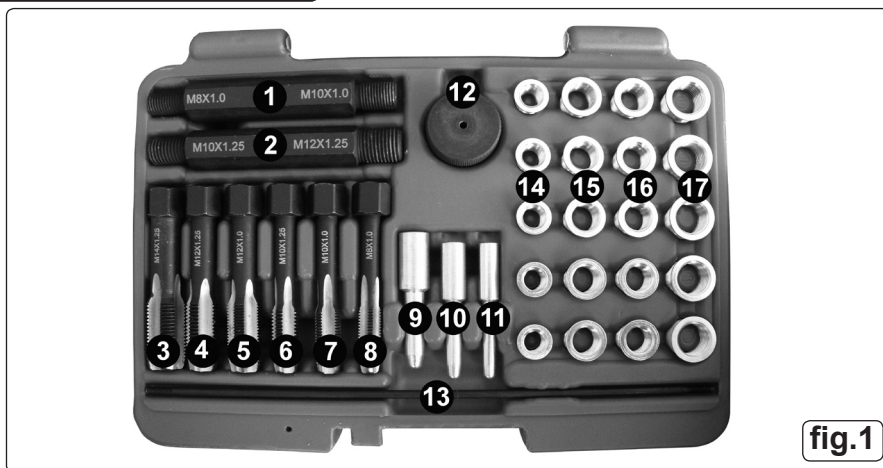
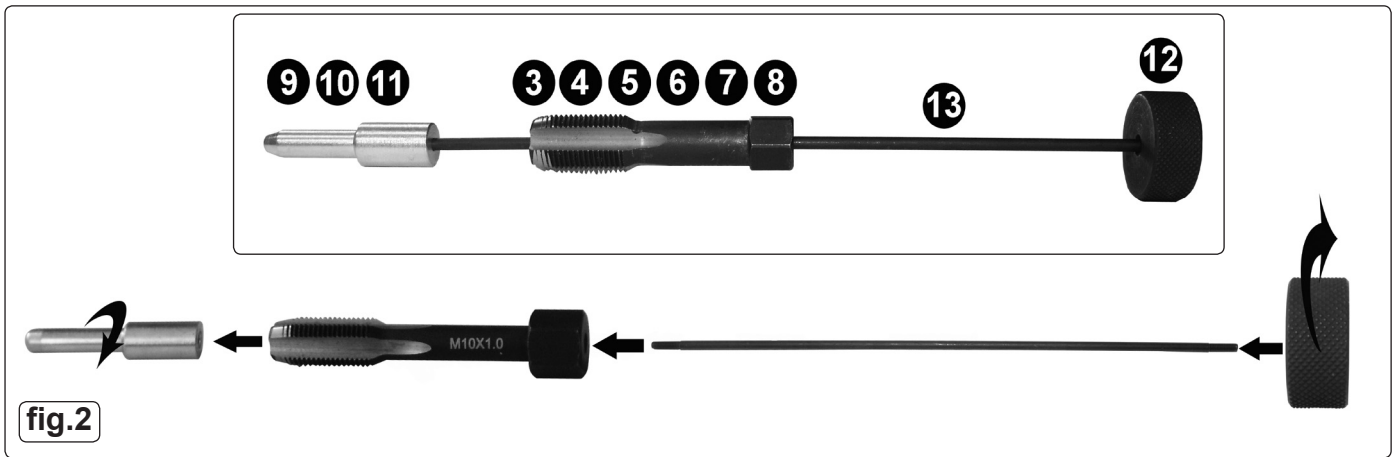

fig.1
fig.2
- 4.1.2. Using the correct size of tap and insert guide, assemble the set as shown in fig.2.
Insert/Tap/Guide Configurations (Refer to fig.1 & fig.2)
- 4.2.2. Using the table above, assemble the set, as shown in fig.2 with the correct tap and insert guide configuration for the size of insert required.